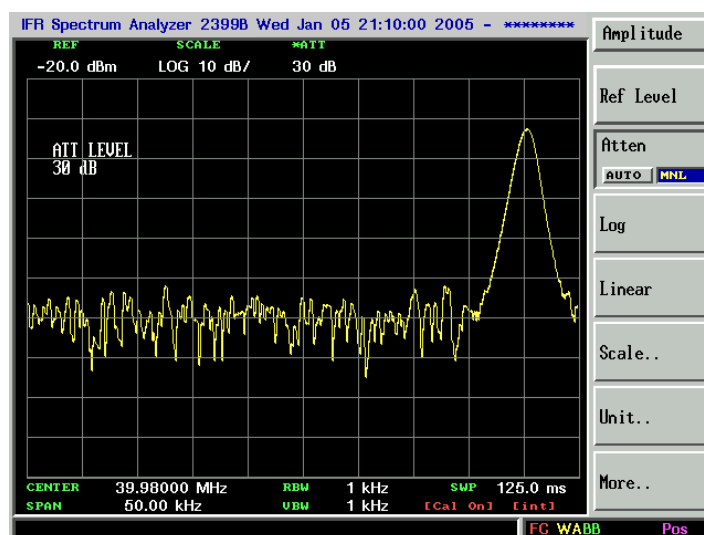

Figure 2-20. Setting the input attenuator
4. Set the reference level to -20 dBm by pressing **[AMPL]**, *Ref Level*, *-20 dBm*. See Figure 2-20. Note that if the signal is much higher than shown, adjust the input attenuator. In this example the input attenuation was set to 30dB by pressing *Atten*, **[MNL]**, 30dB.